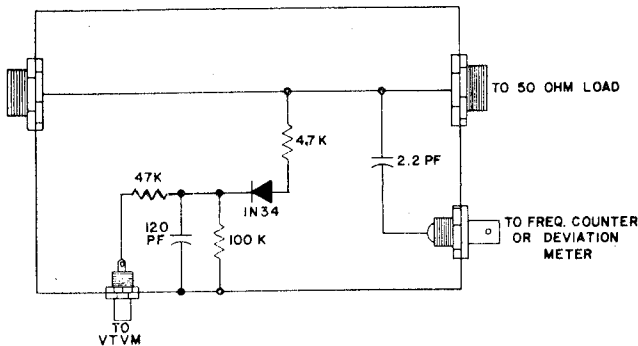

Figure 4-7. Relative Output Indicator
- a) Power meter, 50 watts @ 160 MHz; or, Relative Output Indicating Device (Figure 4-7) with 50-ohm dummy load.
- 1) Attach 50-ohm dummy load to transceiver RF connector, J201, either through a power meter, or a relative output indicating device (see Figure 4-7).
- 2) If the relative output indicating device of Figure 4-7 is used, connect VTVM DC probe to the relative output terminal labeled "To VTVM." Otherwise, observe the wattmeter or other relative output indicator.